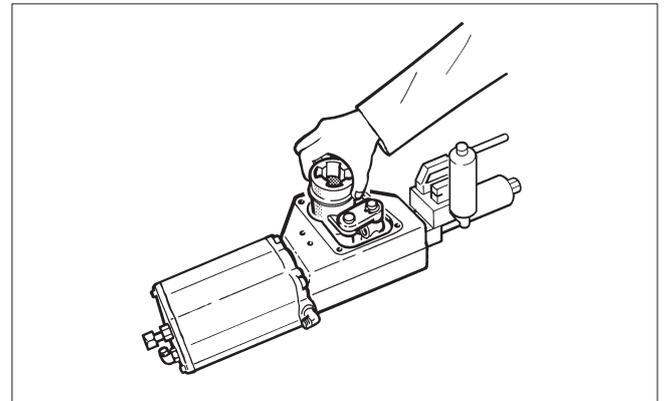

Fig. 21 Removing the linkage from the housing
- Turn the lever (3) so that the bearing unit is detached from the piston rod (10). Lift the entire lever system out of the housing, Figure 21.
- Remove the lever bearings (23) and the O-rings (17).
- Install the lever bearings (23) and the O-rings (17).
- Assemble the levers. Place them in the housing, see Figure 21 for the correct position.
- Apply sealant, e.g. Loctite 225, to hydraulic cylinder piston rod (75) thread and tighten this through bearing unit (5) to pneumatic cylinder piston rod (10) to the torque indicated in Table 3.